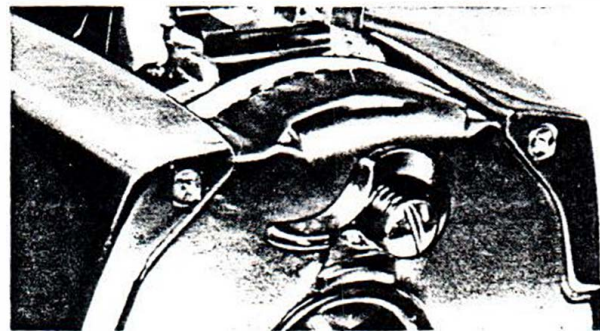

Figure 4. Cover Assembly Removal
- C. See Figure 4. Remove cover assembly by: